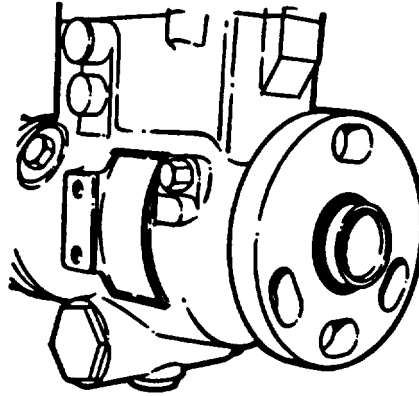

FIGURE 3-90. Installing Pilot Tube Seal (Typical)
- cp. Install pilot tube seal (1, FIGURE 3-52) in mounting flange end of pump, refer to FIGURE 3-90.